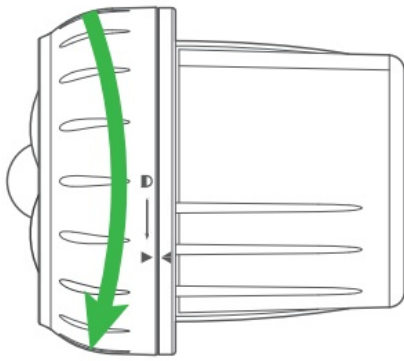

Figure 1
1. Turn the front cover of the spotlight counter-clockwise to the unlock position ▲ (see Figure 1) to release and remove the cover.
1. Turn the front cover of the spotlight counter-clockwise to the unlock position  (see Figure 1 on previous page) so it is no longer powered. Leave the batteries inside the battery compartment.